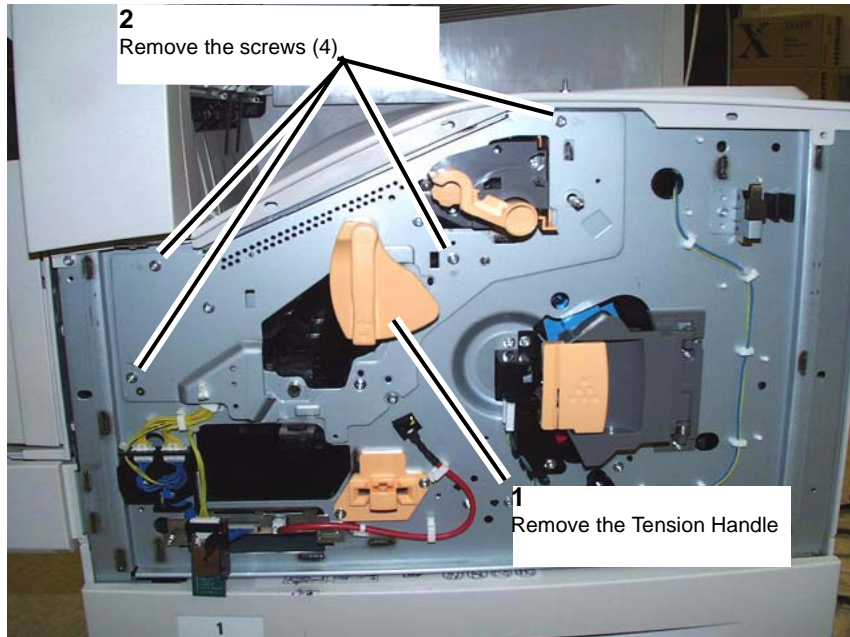

Figure 8 Preparing to removing the IBT Module
12. Remove the screws (4) and the Tension Handle. (Figure 8)